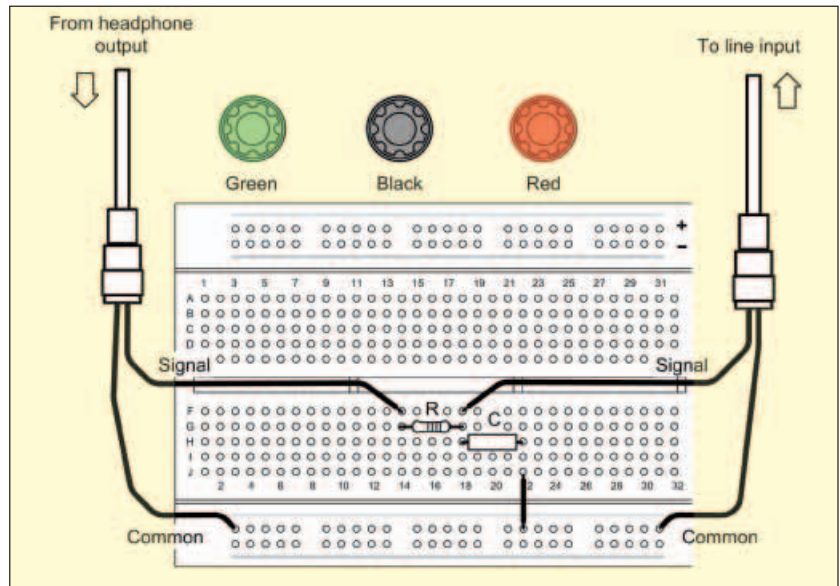

Fig.7.19. Wiring diagram for Practical Investigation 7.1
**Wiring diagram:** See Fig.7.19
3. Connect the headphone output from your PC via a suitable audio lead (e.g. a lead fitted with a 3.5mm jack plug at one end and a phono socket at the other) to the input of the integrating circuit (two short lengths of insulated wire connected to a phono plug can be useful here, as shown in Fig.7.19).
4. Connect the line input to your PC via another audio lead (e.g. another lead fitted with a 3.5 mm jack at one end and a phono socket at the other) to the output of the integrating circuit (once again, two short lengths of insulated wire connected to a phono plug can be useful here, as shown in Fig. 7.19).